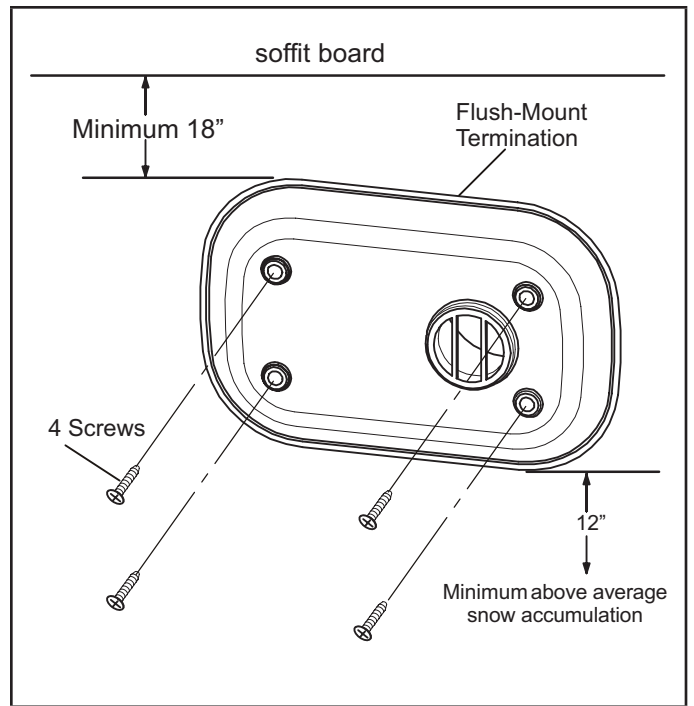

FIGURE 4
- 8 - Secure the flush-mount termination to the wall using the provided screws and anchors or field-provided screws if applicable. See figure 4. Termination should be flush against the wall as shown in figure 5.